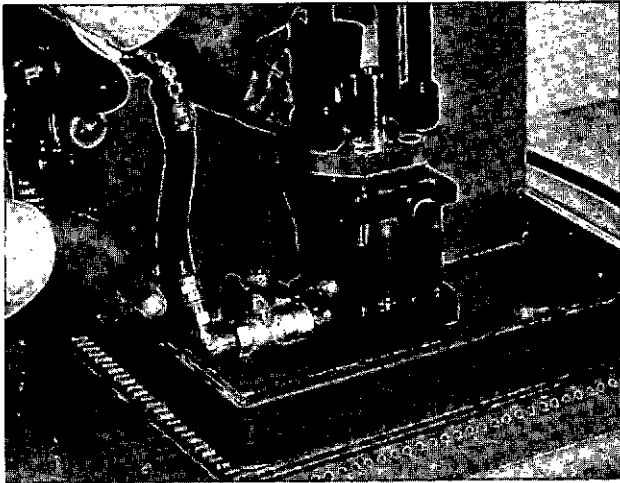

Fig. 4-39, (F60124). The clamping cylinder and seat
3. The injectors are clamped in the test stand by hydraulic pressure from the cylinder, piston rod and injector seat. The injector seat contains a removable orifice to restrict the metered test oil flow and causes a back pressure simulating the compression pressures as found in the engine. Be sure to use the correct size seat orifice, Fig. 4-39.